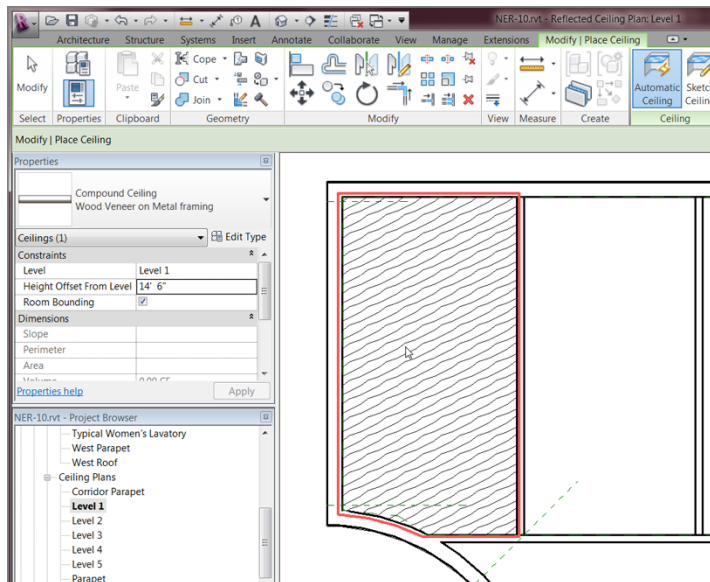

FIGURE 9.21: The cherry-veneered plywood ceiling
20. In the Properties dialog box, change Height Offset From Level to 14'-6" (4350mm), as shown in Figure 9.21.
21. Place the ceiling in the room shown in Figure 9.21.